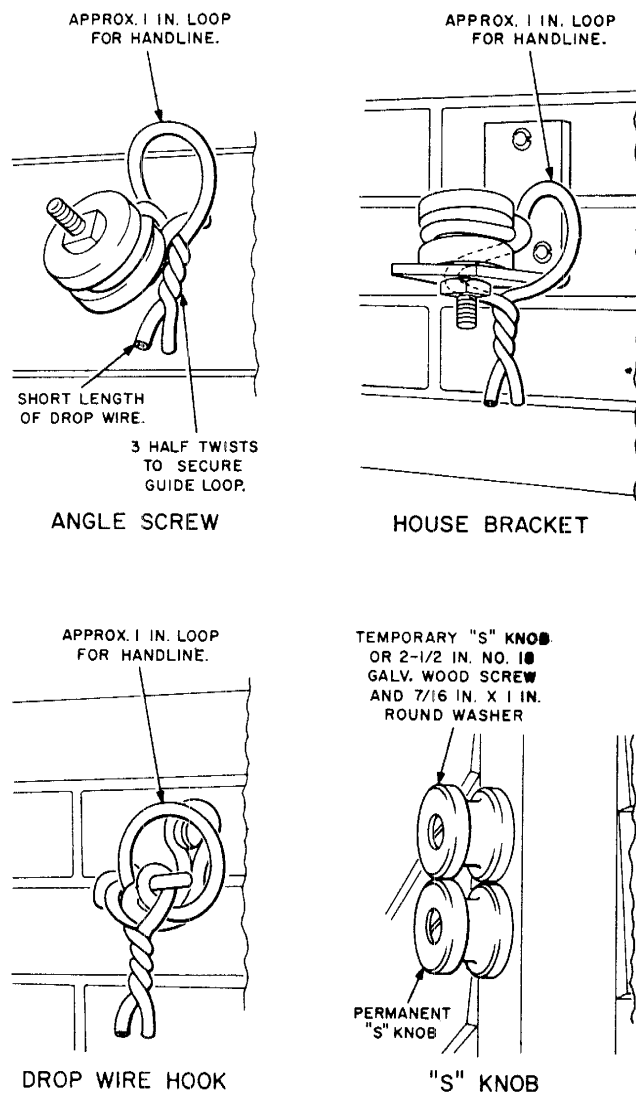

Fig. 9 — Temporary Guide Loop
5.02 Place a drop wire between two buildings in the same manner as for a pole-to-building run, providing as much sag as practicable in the wire span. A temporary guide loop, such as shown in Fig. 9, should be installed on the first building attachment at which the wire span is to be raised, to prevent accidental disengagement of the handline from the building attachment. Support the tension in the wire by lashing the handline, which was used in raising the wire, to a substantial and secure support near the base of the building and then install the second drop wire clamp of the span.